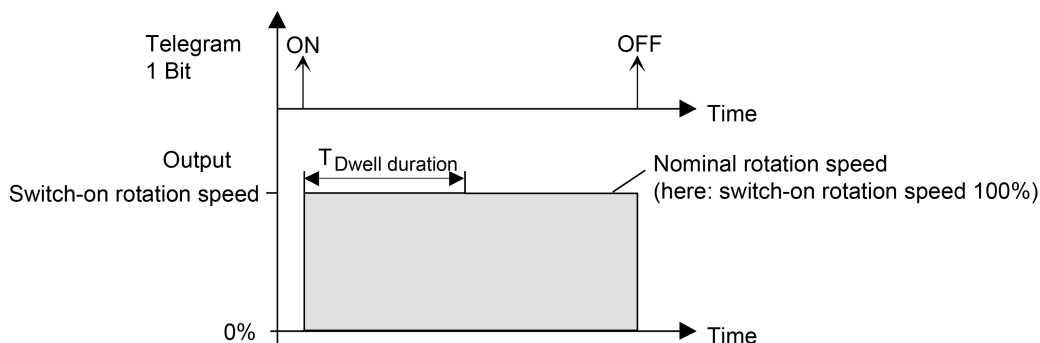
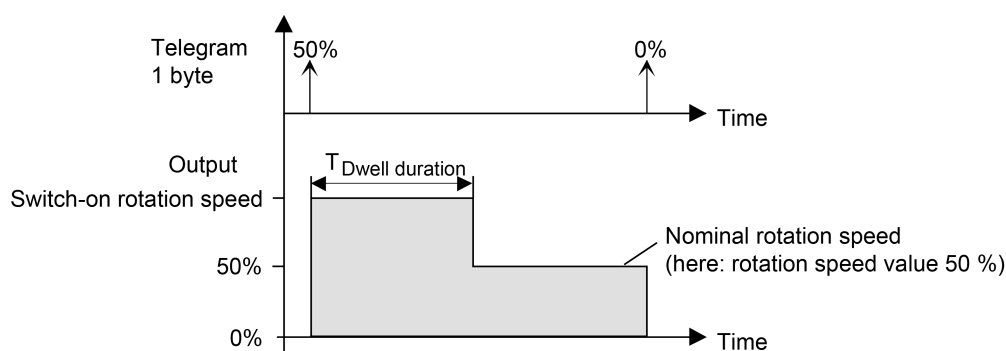

Figure 40: Cutting-in speed and required speed for switching commands
Figure 41: Cutting-in speed and required speed for value commands
**i** Required speed: The required speed results directly from switching commands via switching telegrams or via the manual operation. The required speed is then the cutting-in speed (figure 40). Alternatively, the required speed is specified immediately via telegrams to the speed object or via speed specifications of the scene function or disabling and forced position functions (figure 41).